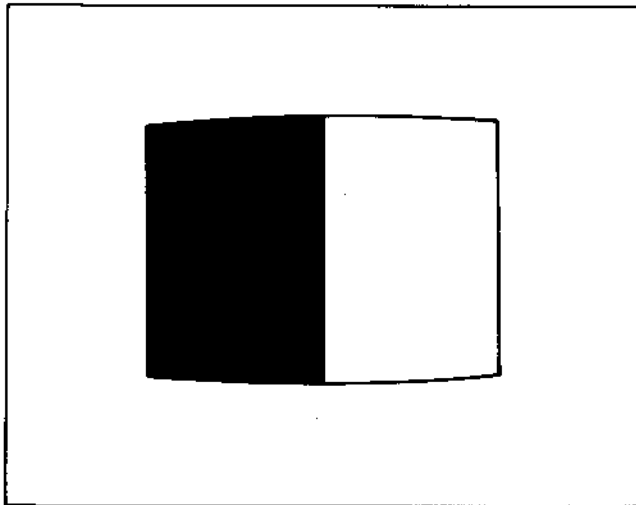

Fig. 4-4-19. Test signal adjustment
- (1) Turn on the TEST SIG switch.
- (2) Adjust RV24 so that the monitor TV picture becomes as shown in Fig. 4-4-19.